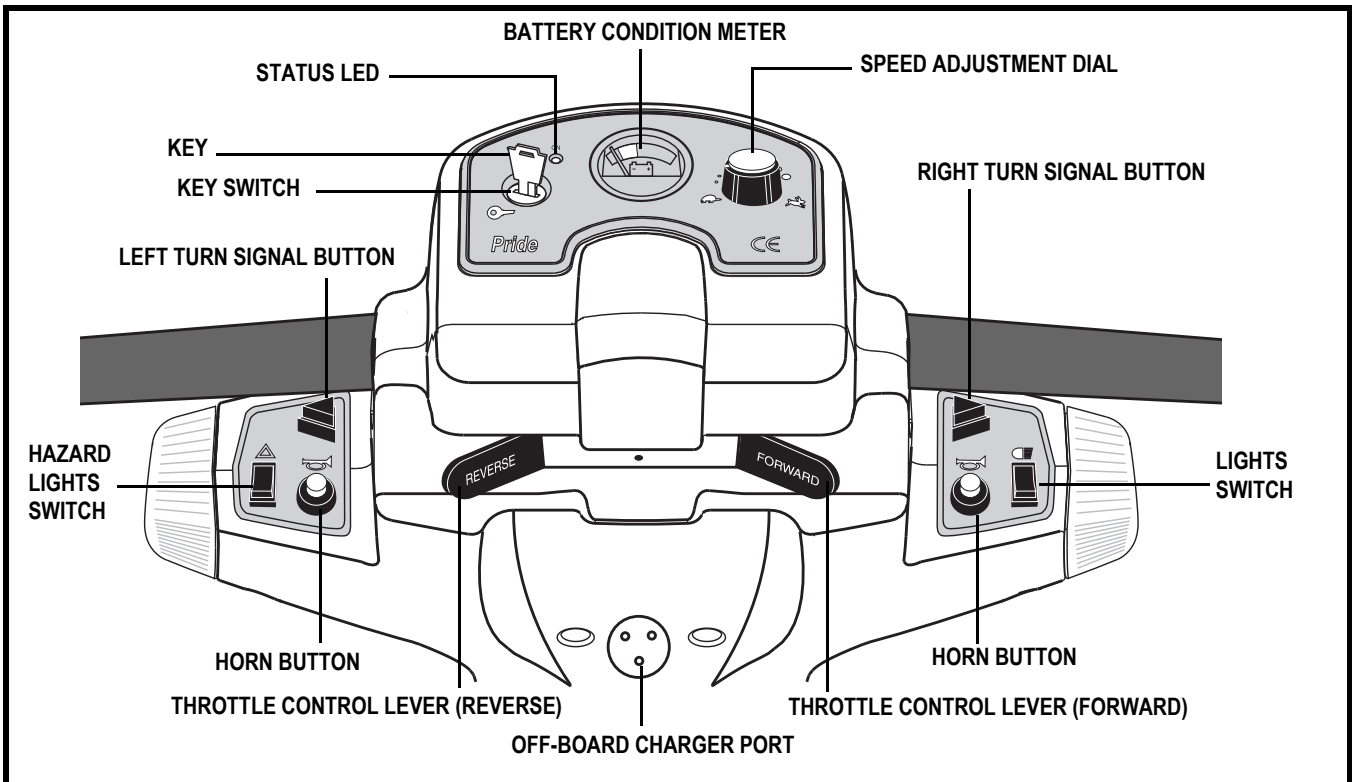

Figure 5. Control Console Assembly
The control console assembly houses all of the controls you need to drive your scooter, including the key switch, speed adjustment dial, status LED, throttle control lever, battery condition meter, horn buttons, light switch, turn signal buttons, off-board charger port, and the hazard lights switch. See figure 5.
4. Plug the 3-pin charger power cord into the off-board charger port. See figures 5 and 9.